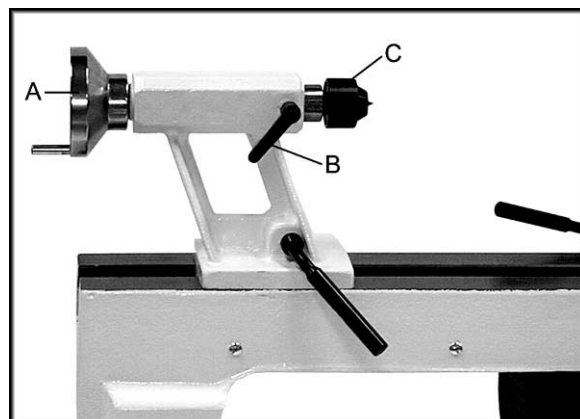

Figure 12
1. Loosen tailstock lock handle (B, Figure 12).
2. Turn the tailstock handwheel (A, Figure 12) counterclockwise until the live center (C, Figure 12) ejects from the spindle. NOTE: Do not allow the live center to fall.